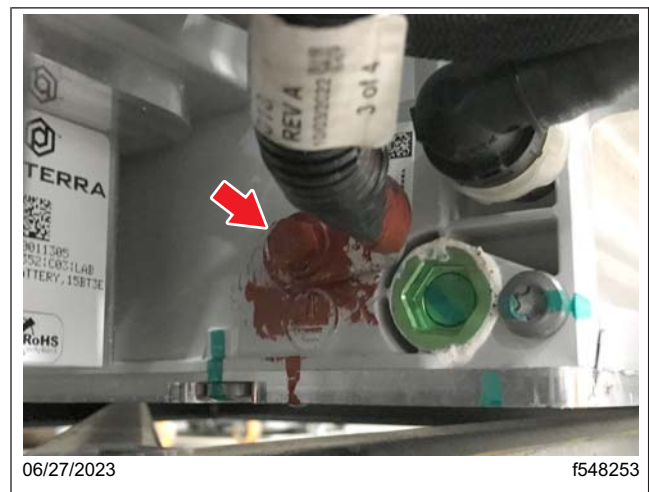

Fig. 5, Ground Cable Connection Location
9. Remove the ground cable connection (total two) from each battery in the pack. See Fig. 5.